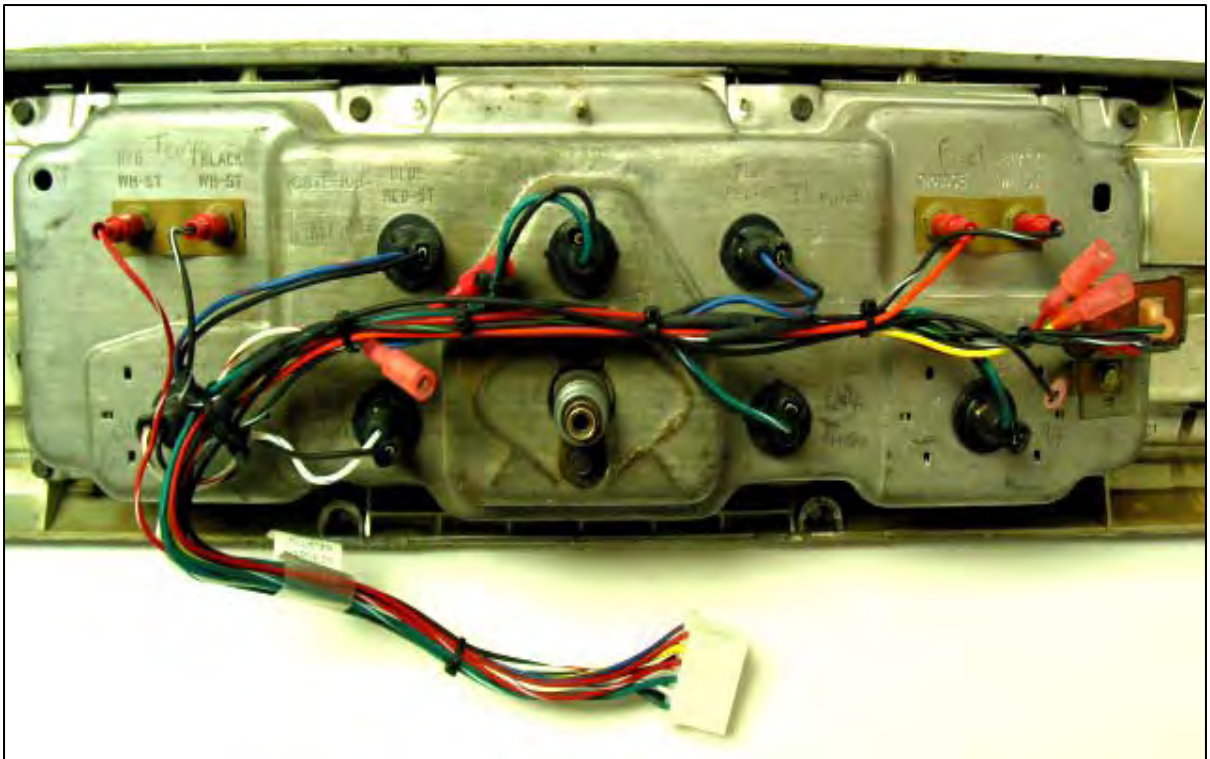

Figure 7-34 1967 thru 1969 Models - Cluster Harness
- 7.16.1** Locate the "Early Cluster Harness" in the kit. This harness will connect to the back of a 1967, 1968 or 1969 Dash Cluster only. Some clusters have gauges for Fuel Level and Temperature only. See Figure 7-34. Other clusters have all four gauges. On the early stamped steel Ford clusters the wire color of each connection is stamped into the metal.
- 7.16.2** After removing the original harness, carefully lay the new cluster harness over the back of the cluster as shown. Now read the wire designations by each (holes – for lights) and (threaded studs – for sockets). Connect the harness as shown in Figure 7-34. **NOTE: If the cluster being wired has an ammeter and not a charge light, the bulb and socket for the charge light must be cut off and the wires spliced together. If this step is skipped the charging system will not work.**